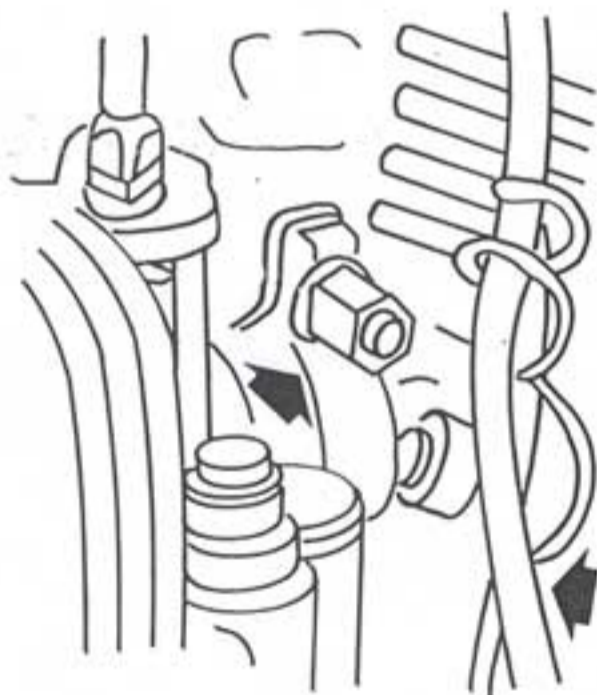

Fig. 4
- Reconnect the wires to the spade connections behind the flywheel magneto stator plate (pass them through the guide spring, if equipped) (fig. 4).